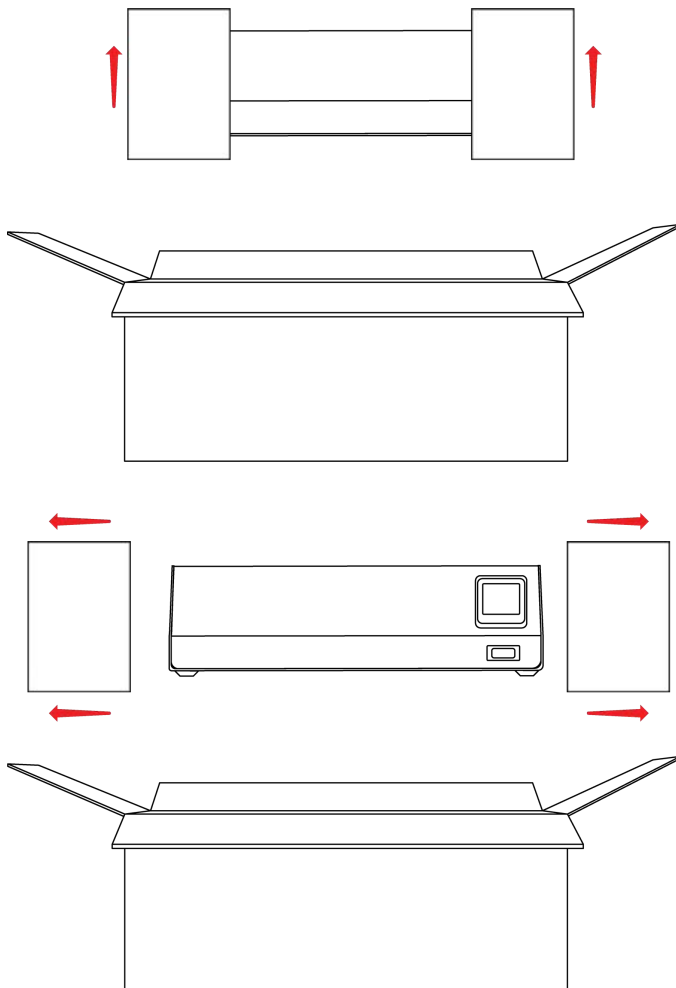

Fig 1 . Unpacking Process (Box)
- Removing the box requires the cling wrap and straps to be cut, then expose the cabinet by carefully sliding the box upwards. **(Fig 1)**